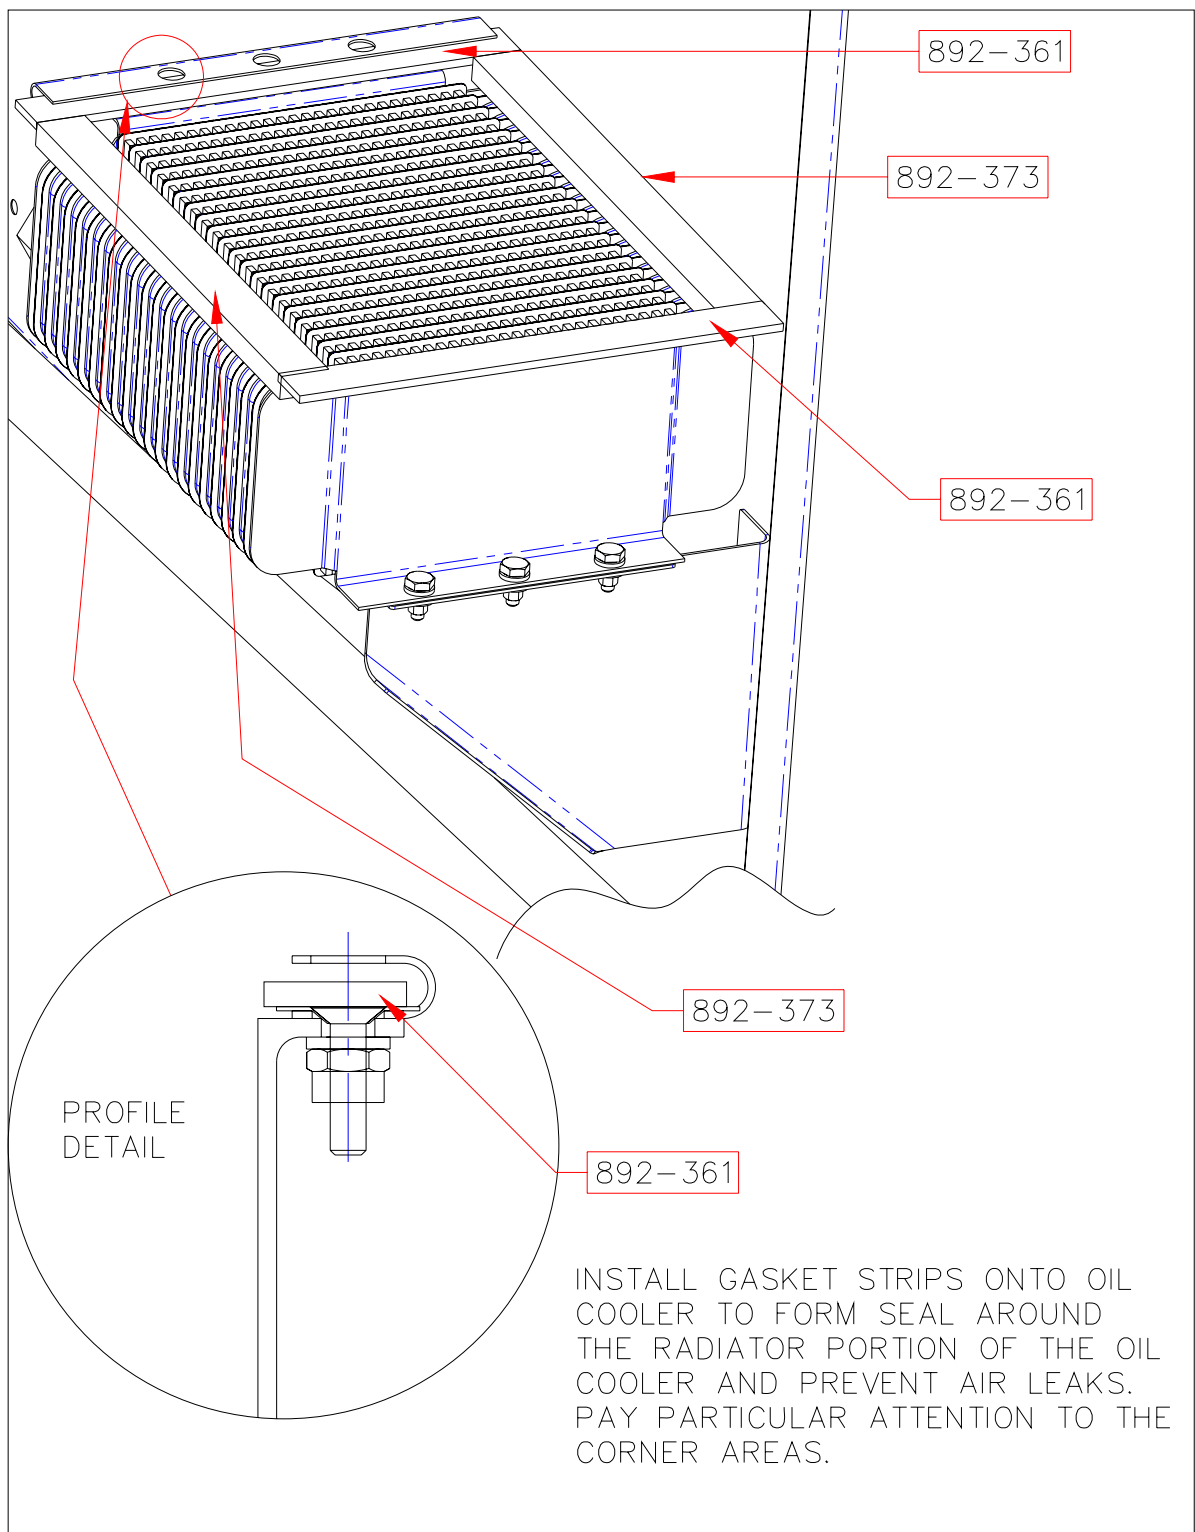

FIGURE 9 GASKET INSTALLATIONS
13. Install gasket material per Figure 9.